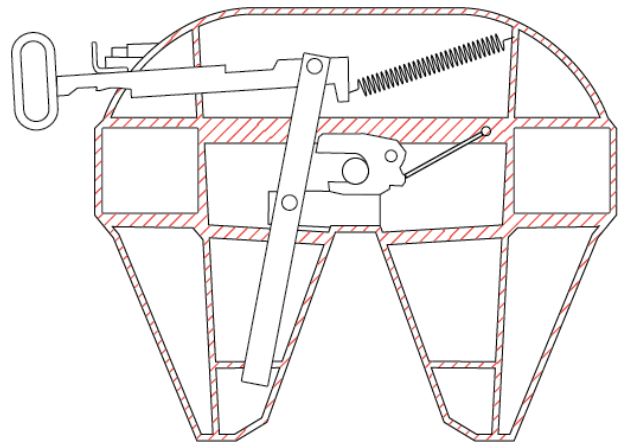
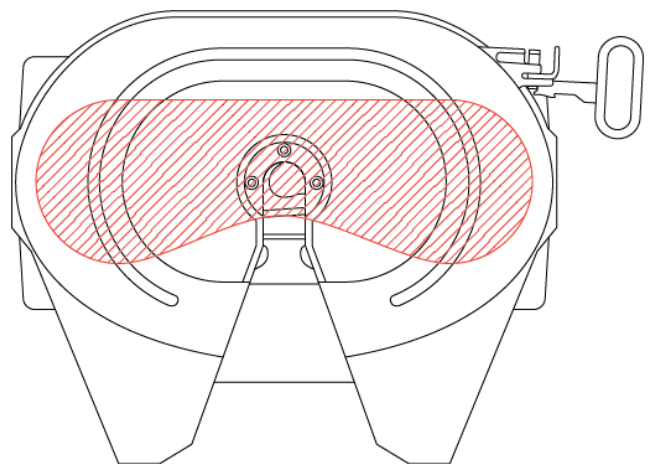

Figure 2: main structure of fifth wheel
Figure 3: area of major load paths
Manufacturers of LFPs are required to consider safety critical areas of the fifth wheel assembly when designing their product and its installation method. These areas include the main structure of the fifth wheel (figure 2) and the area of major load paths (figure 3). Where possible, drilling in these areas should be avoided. If it is necessary that holes be drilled in these areas, additional care, assessment and instruction is required.
The upper surface is supported by the main structure which is a framework of ribs and gussets that provide strength and rigidity to the fifth wheel (The main structure is indicated by red lines in figure 2).
Bolt holes drilled in or close to the major load paths (see figure 3) are subject to additional stresses during normal use of a fifth wheel coupling. For this reason, it is recommended that drilling bolt holes in this area is avoided.
- drilling of bolt holes in or close to the major load paths without detailed stress analysis (see figure 2)